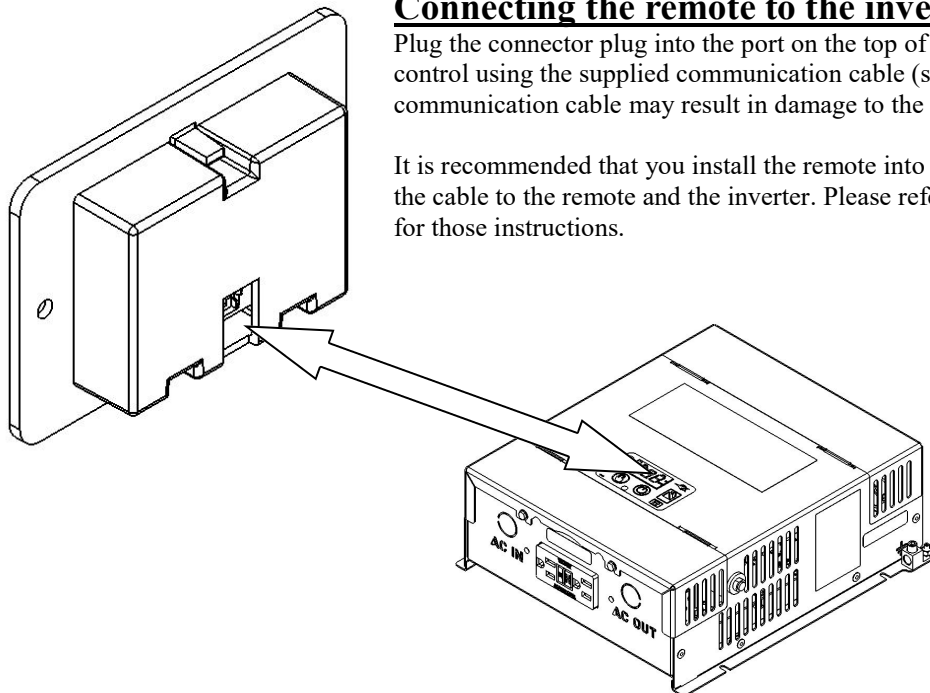

Figure 2 Connecting communication cable
Plug the connector plug into the port on the top of the inverter and the back of the remote control using the supplied communication cable (see Figure 2). Failure to use the supplied communication cable may result in damage to the PD1201 Remote Display.
7. Connect the communication cable to the RJ9 port on the inverter and the remote control (see Figure 2).